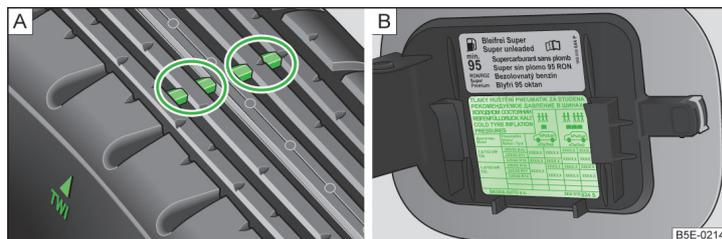

Fig. 141 Principle sketch: Tyre tread with wear indicators/open fuel filler flap with a table detailing the tyre sizes and tyre inflation pressures
The tyre pressures for **tyres** are shown on the inside of the fuel filler flap » Fig. 141 – B.
The base of the tread of the tyres contains has a 1.6 mm high wear indicator » Fig. 141 - A. In some countries, different tyre wear rates may apply.
- › The temporary spare wheel is inflated to the maximum inflation pressure for the vehicle » Fig. 141 on page 157.